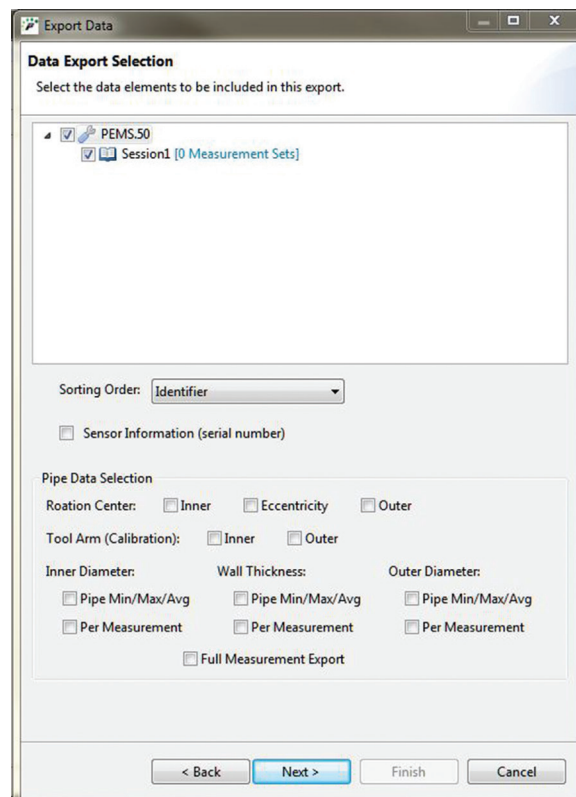

Figure 4-6 - Select Data to be Exported
4. Select the data to be exported by checking the box next to the data name. Export all measurement sessions on a tool by clicking on the tool name, or select specific measurement sessions. See Figure 4-6.